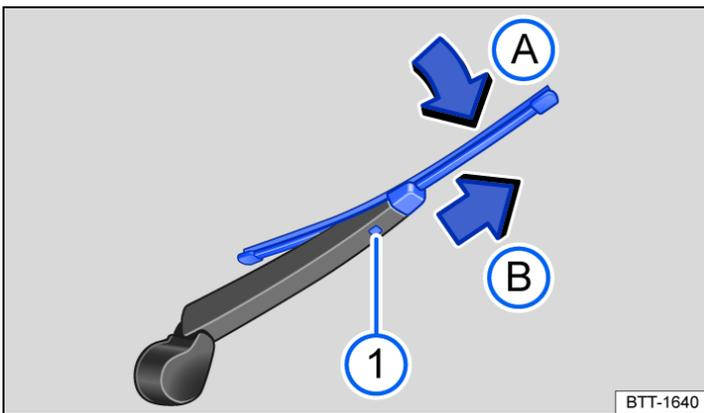

Fig. 2 Changing the wiper blade for the rear window.
- Press and hold the release button → Fig. 2 .
- Tilt the wiper blade in the direction of the wiper arm → Fig. 2 (arrow ) and pull it off in the direction of the arrow  at the same time. You may need to use some force to do this.
- Insert a new wiper blade with the same length and design onto the wiper arm against the direction of the arrow. Push it on until it engages → Fig. 2 (arrow ). The wiper blade must be in the folded back position → Fig. 2 (arrow .